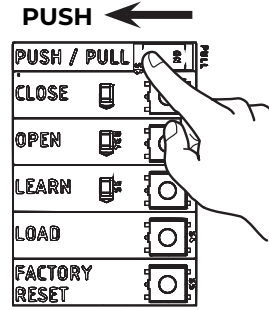
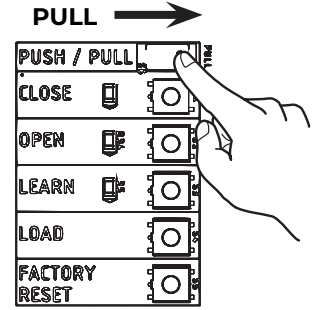

Figure 4
Figure 5
- Depending on your application, select PUSH or PULL by moving toggle switch LEFT or RIGHT. (Figure 4 and Figure 5)